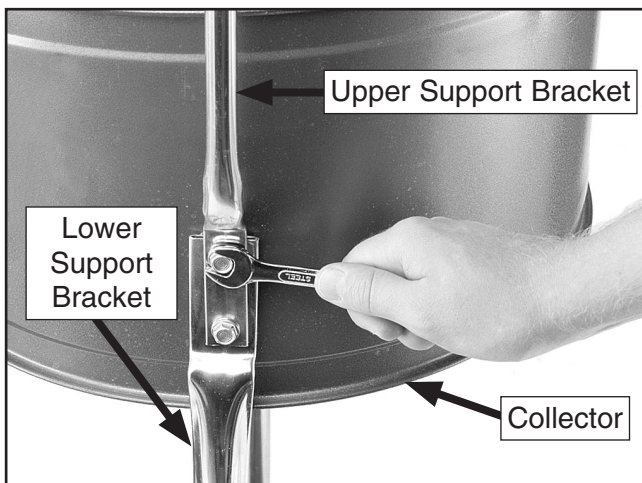

Figure 9. Mounting collector to brackets.
5. Secure the front lower support bracket to the collector with (2) $\frac{5}{16}$ "-18 x $\frac{1}{2}$ " flange bolts.
6. Place the upper support bracket over the lower support bracket, and secure with (2) $\frac{5}{16}$ "-18 x $\frac{1}{2}$ " flange bolts, as shown in **Figure 9**.